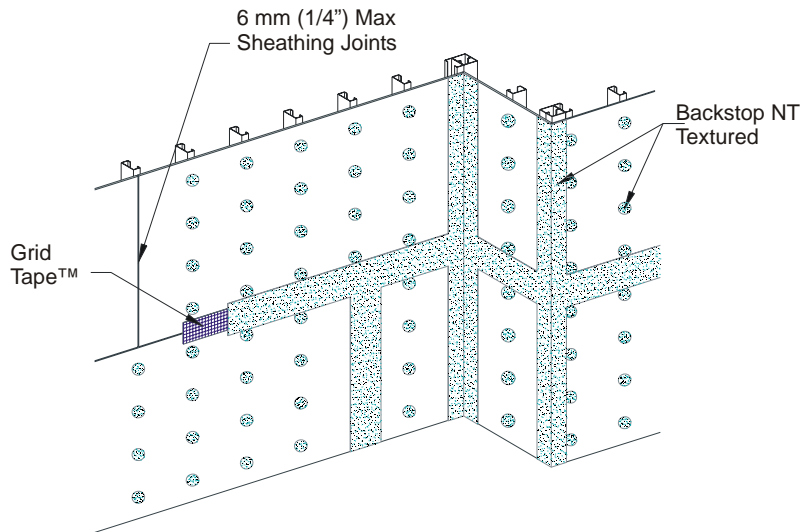

Figure 1
1. Apply a strip of Grid Tape™ over all sheathing joints and inside and outside corners. Mix the Backstop NT - Texture material as described above and, using a stainless steel trowel or spatula, apply a layer of Backstop NT - Texture over the Grid Tape and spot all fastener heads (Fig. 1). **NOTE: Dryvit Grid Tape is not necessary over fastener heads.**